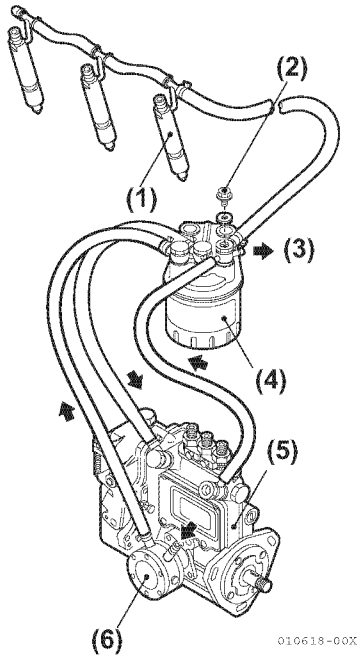

Figure 3-41
3. Loosen the air bleeding bolt (**Figure 3-41, (2)** of the fuel filter by turning it 2 or 3 turns.